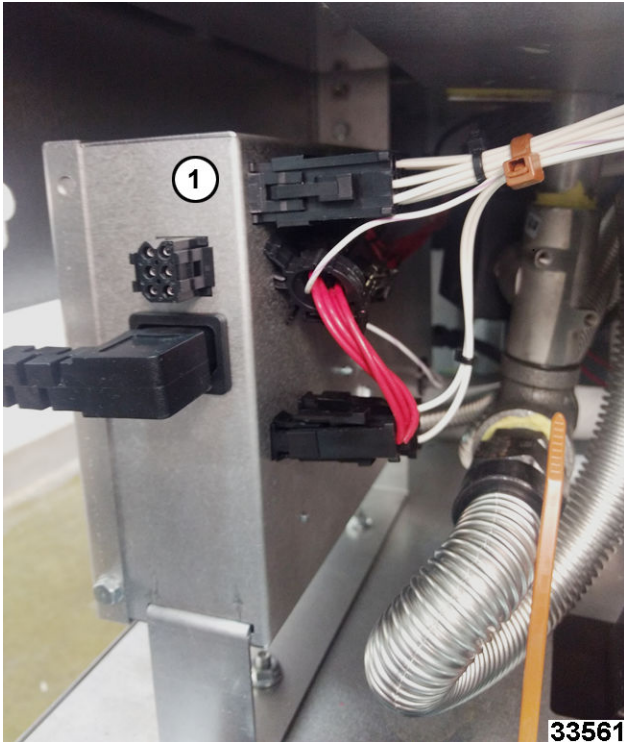

Fig. 37
2. Unplug power cord to power supply box (1, Fig. 37). Note and disconnect wire connectors.